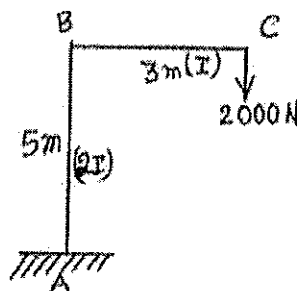

Fig.Q.3(b).
b. For the bent beam shown in Fig.Q.3(b). Find horizontal and vertical deflections at free end by strain energy method. (14 Marks)